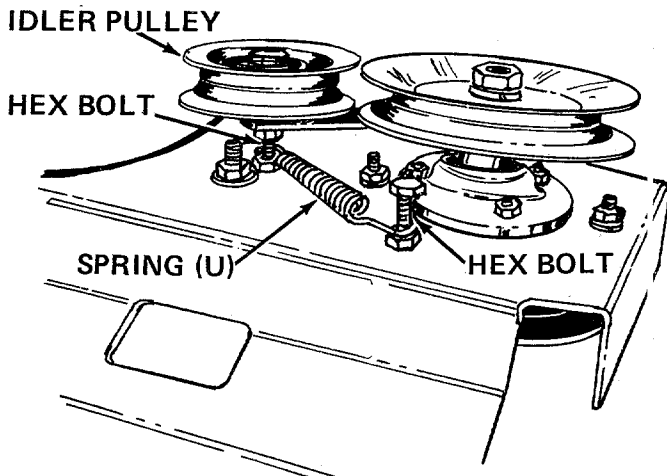

FIGURE 10
12. Turn the supporting bracket subassembly over. Attach one end of spring (U) to the hex bolt which secures the idler pulley to the bracket. Attach the other end of the spring to the hex bolt on supporting bracket subassembly. See figure 10.
13. Place the supporting bracket subassembly under tractor, up over the lift handle straps. Make sure straps go down through the slots in the supporting bracket. See figure 10.